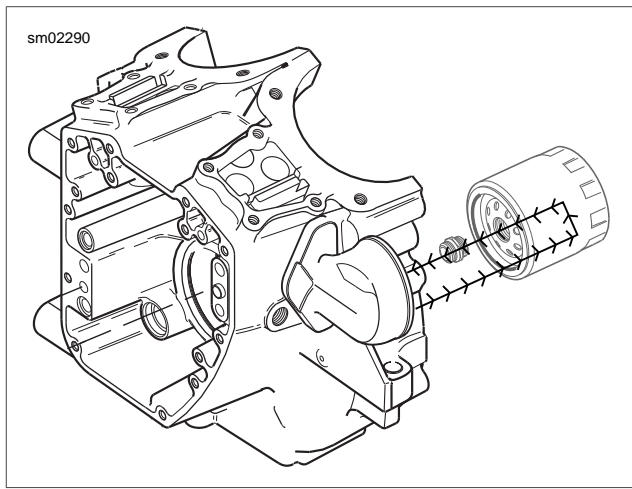

Figure 3-3. Oil Filter Flow
See Figure 3-3. Oil not returned to the feed side exits a hole on the inboard side of the cam support plate and passes through a hole in the crankcase flange. Flowing through a passageway in the crankcase, where a reading is taken by the oil pressure sending unit (8), the oil exits the lower hole in the oil filter mount.